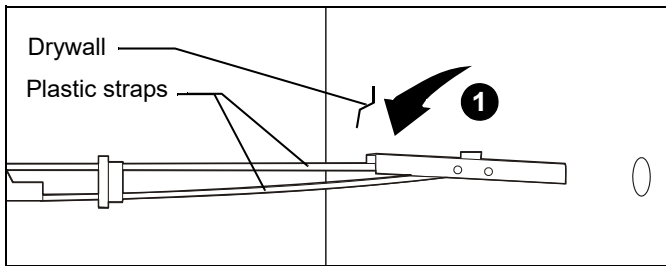

Figure 5
1. Hold metal channel on anchor flat alongside plastic straps and slide channel through hole. (See Figure 5)